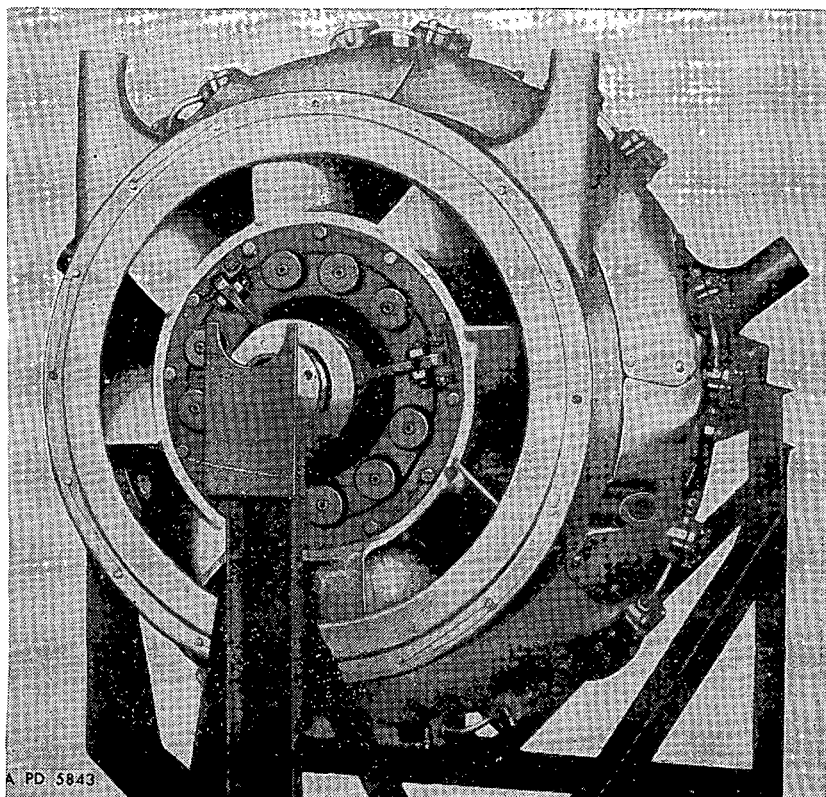

FIGURE 50.—Front view, Guiberson T-1020, series 4.
83. *Description*.—Engine cooling is accomplished by air drawn through the fan guard screen (fig. 50), and circulated by the engine fan around and over the finned cylinders and cylinder heads. Sheet metal baffles and a shroud are employed to direct the air flow for the most effective cooling.